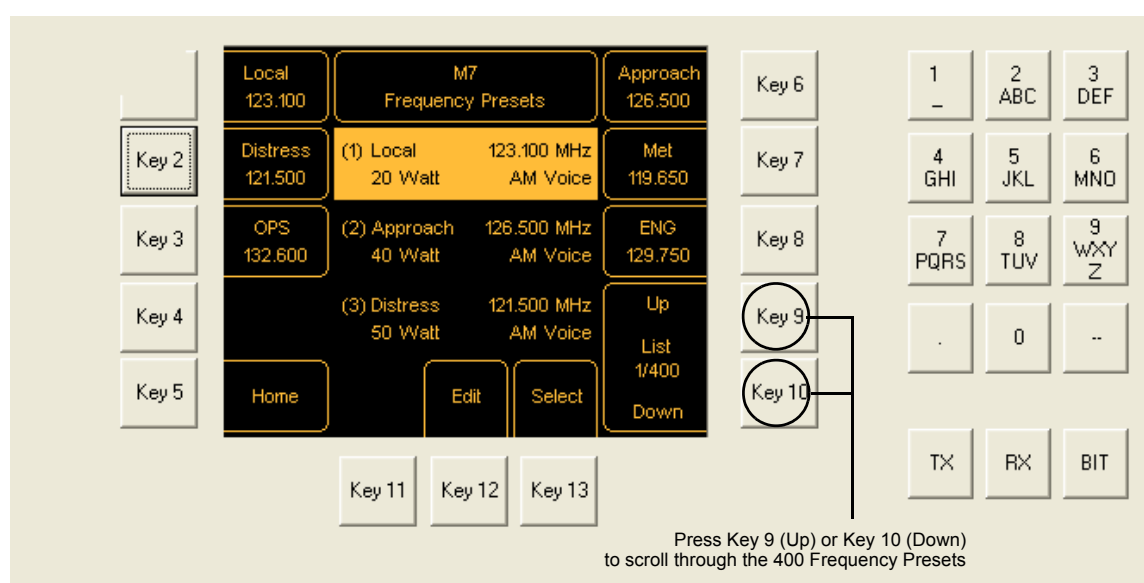

Fig 3-22 Example List of Frequency Presets
- (2) The Frequency Presets list screen (Fig 3-22) makes the 400 stored presets available for selection by scrolling through the list using **Key 9** and **Key 10**. An additional feature makes the first six Frequency Presets (FP1 to FP6) available for immediate recall by pressing **Key 1**, **2**, or **3** (for FP1, 2 or 3 respectively) or **Key 6**, **7**, or **8** (for FP4, 5 or 6 respectively). If the immediate recall facility is required, press the appropriate key.
- (3) If a Frequency Preset that is not available on the immediate recall keys is required, press **Key 9** or **Key 10** to scroll through the list of 400 presets. When the required Frequency Preset is highlighted, press **Key 13** to select the preset. [Note that keeping **Key 9** or **Key 10** pressed results in faster scrolling.]